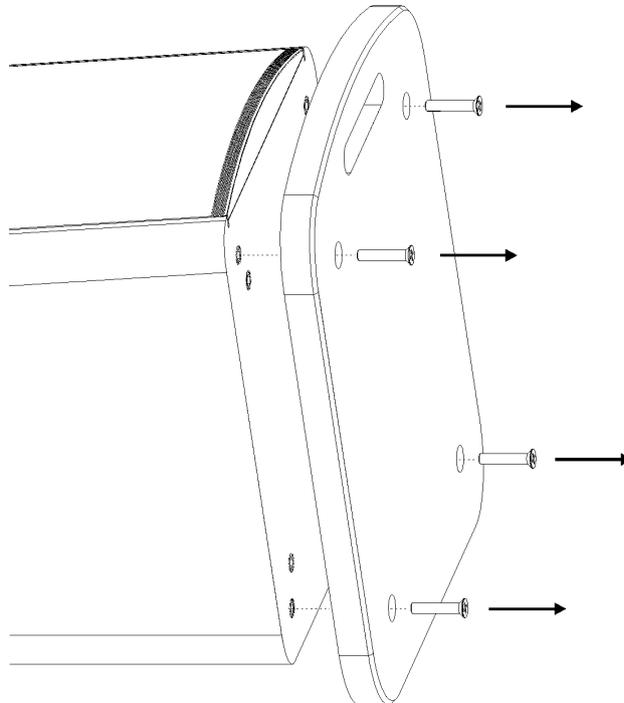

Fig. 1
- Remove the four retaining screws, followed by the transport plate, as shown in Fig.1.